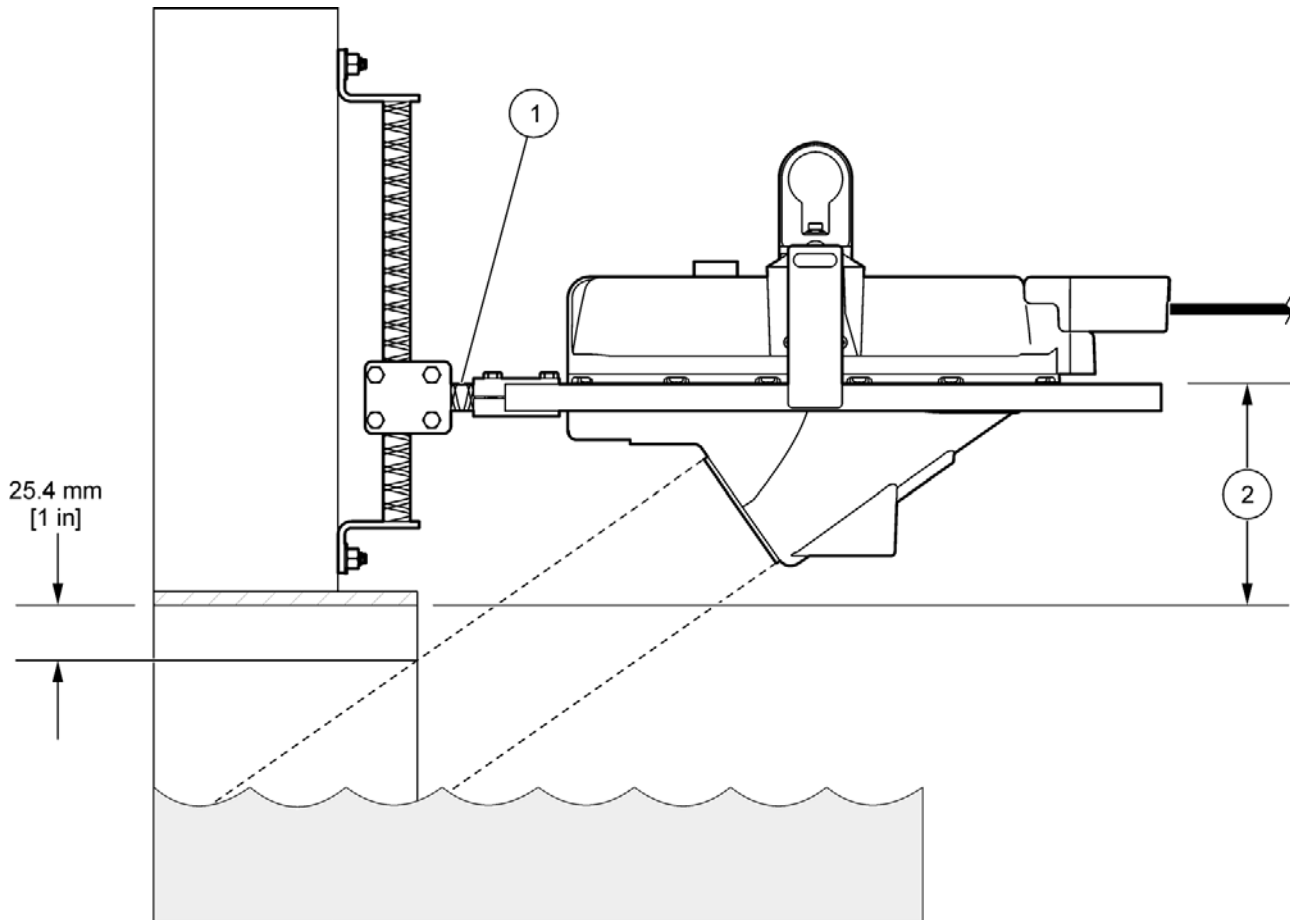

Figure 11 Vertical alignment of Flo-Dar sensor
- Flo-Dar without SVS—make sure that when the sensor is in the frame, the radar beam will not be blocked by the wall or channel (Figure 11).
The sensor must be aligned vertically to make sure that the sensor is above the flow and that the radar beam will not be blocked by the wall or pipe (Figure 11). Use the optional laser alignment tool for best accuracy (see Accessories on page 33).
1. Make an estimate of where a line that extends from the top of the radar lens perpendicular to where the lens will point (Figure 11). Use the laser alignment tool for best accuracy.
2. Loosen the clamp on the wall mount bracket and position the frame so that the radar beam will point below the crown of the pipe by at least 1 inch (Figure 11). It may be necessary to install the 12 inch spacer to extend the frame farther from the wall.